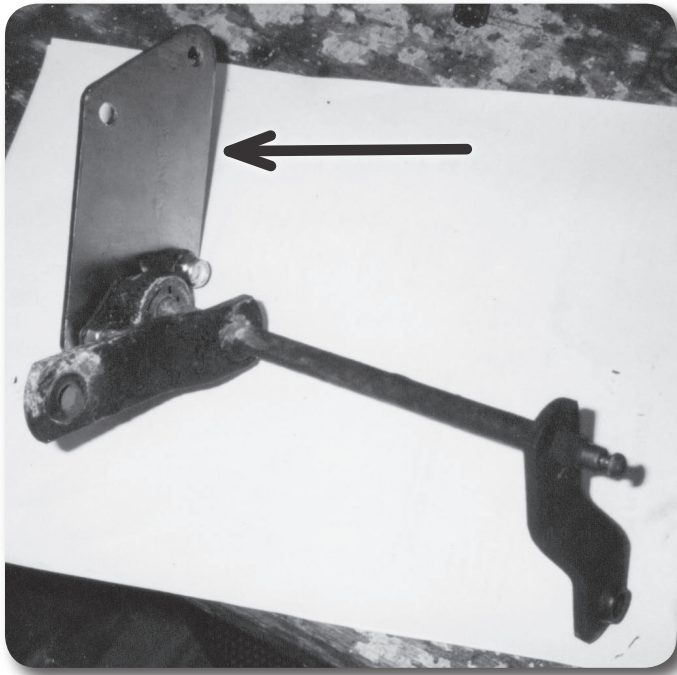

Figure 7
37. Attach the pivot assembly to the relocation bracket using two 1/4" x 1/2" bolts and lock nuts. The pivot rod runs through the large hole in the bracket (Fig. 7).